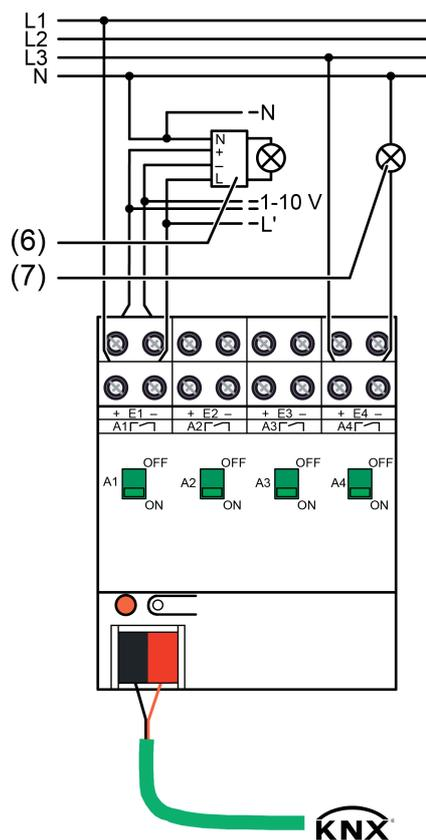

Figure 2: Connection example
- Connect the lamp operating devices (6) and optional additional consumers (7) according to the connection diagram (figure 2).